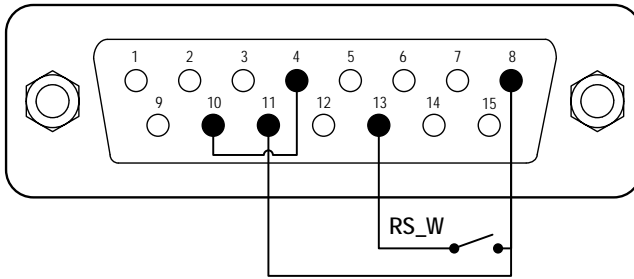
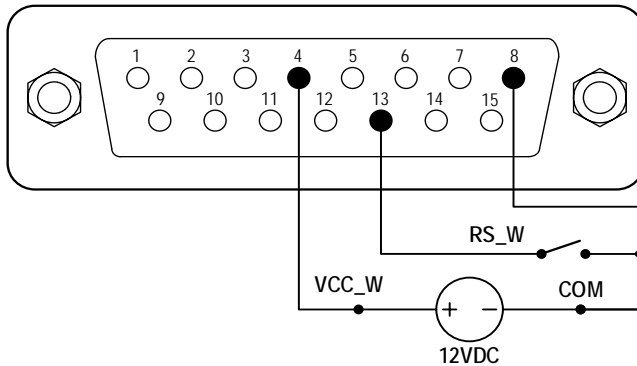

Figure 18. Footswitch with internal 12V Power Source
Figure 19. Footswitch with External 12V Power Source
- 1) Switch the power off. Wire the DB15 connector as shown on Figure 18 or Figure 19, and connect it to the DB15 port on the rear of the pump.